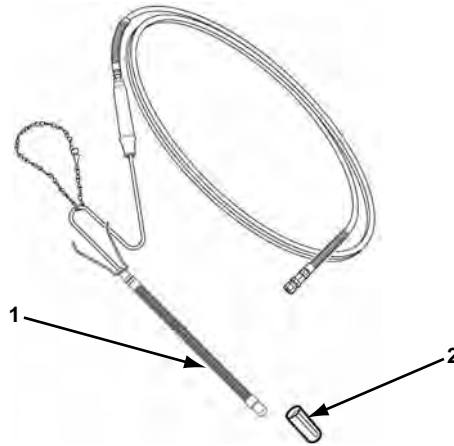

Figure 2-8 Assembled Exhaust Sample Probe
3. Remove the Leak Check Probe Adapter Cap (Figure 2-8) and store it in a safe place.